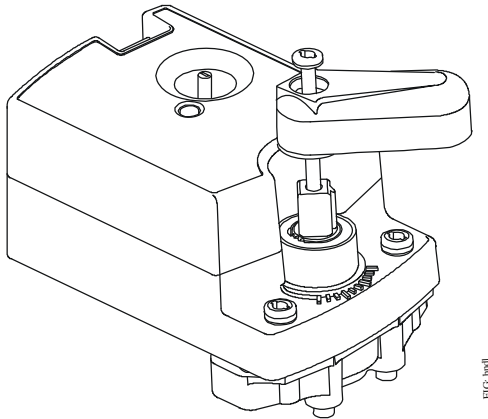

Figure 5: Installing the Handle
3. Place the handle the top of the drive shaft (Figure 5). The handle is keyed on and can only be mounted in one orientation..
- verify that the valve fully opens and closes, using the gear release button on the actuator and the manual override handle, shown in Figure 5.